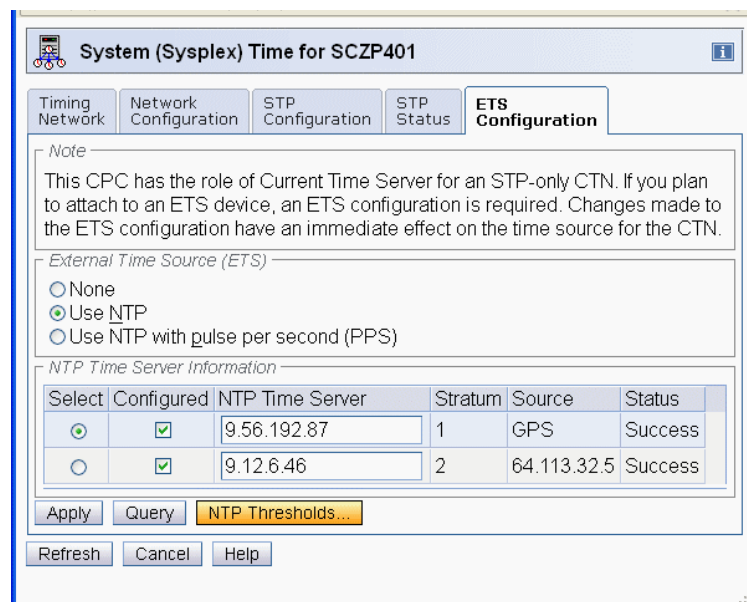

Figure 1-39 External Time Source Configuration - NTP Thresholds
13. It is strongly advised to define two different NTP servers in order to have redundant NTP server capability; select **No** and define a different NTP server. Systems zEC12, z196, and z114 have the capability to define an optional NTP threshold. Select **NTP Thresholds** from the ETS Configuration (Figure 1-39).